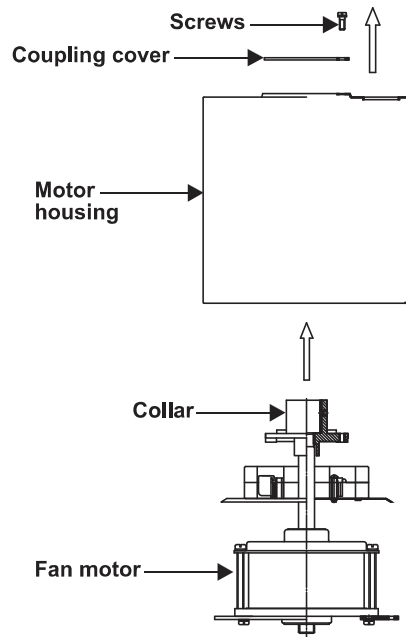

Figure 5
1. Remove the coupling cover and fan housing from the fan motor by removing the two screws from the rim of coupling cover. (Fig. 5)